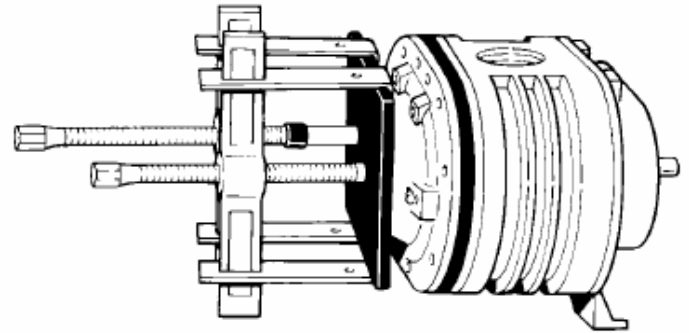

FIGURE 6-4
8. Remove mounting foot (17) from the drive headplate (24) by removing the capscrews (16).
9. Remove the capscrews (21) which secure the drive headplate (24) to the impeller case (22).
11. Install a gear puller to each shaft and attach puller arms to the plate. Turn each puller only half a revolution at a time keeping the advance of the shafts as uniform as possible (see Figure 6-4). After the headplate has been removed, detach the puller plate.